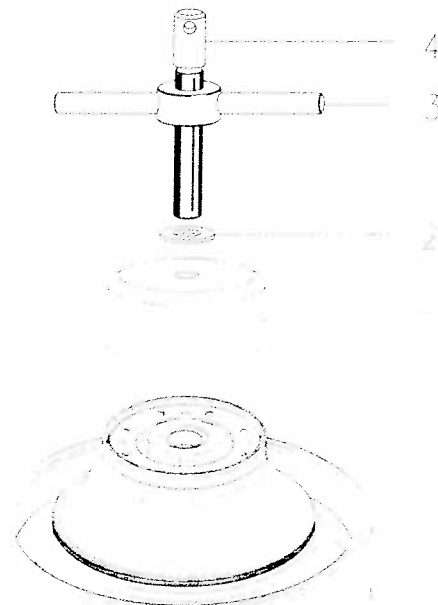

Figure 6.12
- 12) By the spanners (09.060.0 ÷ 09.090.0), compress the **disk stack** (Fig. 6.12). To make this, perform the above mentioned operations.
- Lay the flange (1) on bowl hood.
- Screw tight threaded rod (4) on the distributor. Do not forget bronze washer (2) under nut with handles (3).
- By using extension pipe (09.020.0) screw nut (3) as much as possible and anyhow until the bowl hood completely lay on the corresponding seat of the bowl body.
The spanner for compression disk stack also allows to check if disks compression is correct. In fact one manual turn of nut (3 - fig. 6.12), by means of extension pipe, must cause a "sensation of toil". If after one turn it is still hard to loosen the spanner it means that one or two more disks are still necessary.
- 5) By the spanners (09.060.0 ÷ 09.090.0), compress the **disk stack** (Fig. 6.12). To make this, perform the above mentioned operations.
- Lay bell (1) on bowl hood.
- Screw tight threaded rod (4) on the distributor. Do not forget bronze washer under nut with handles.
- When the nut (3) lay on the flange (1), one turn is enough to slightly lift the distributor from bowl body.
The spanner for compression disk stack also allows to check if disks compression is correct. Infact one manual turn of nut (3 - Fig. 6.12), by means of extension pipe, must cause a "sensation of toil". If after one turn it is still hard to loosen the spanner it means that one or two more disks are still necessary.